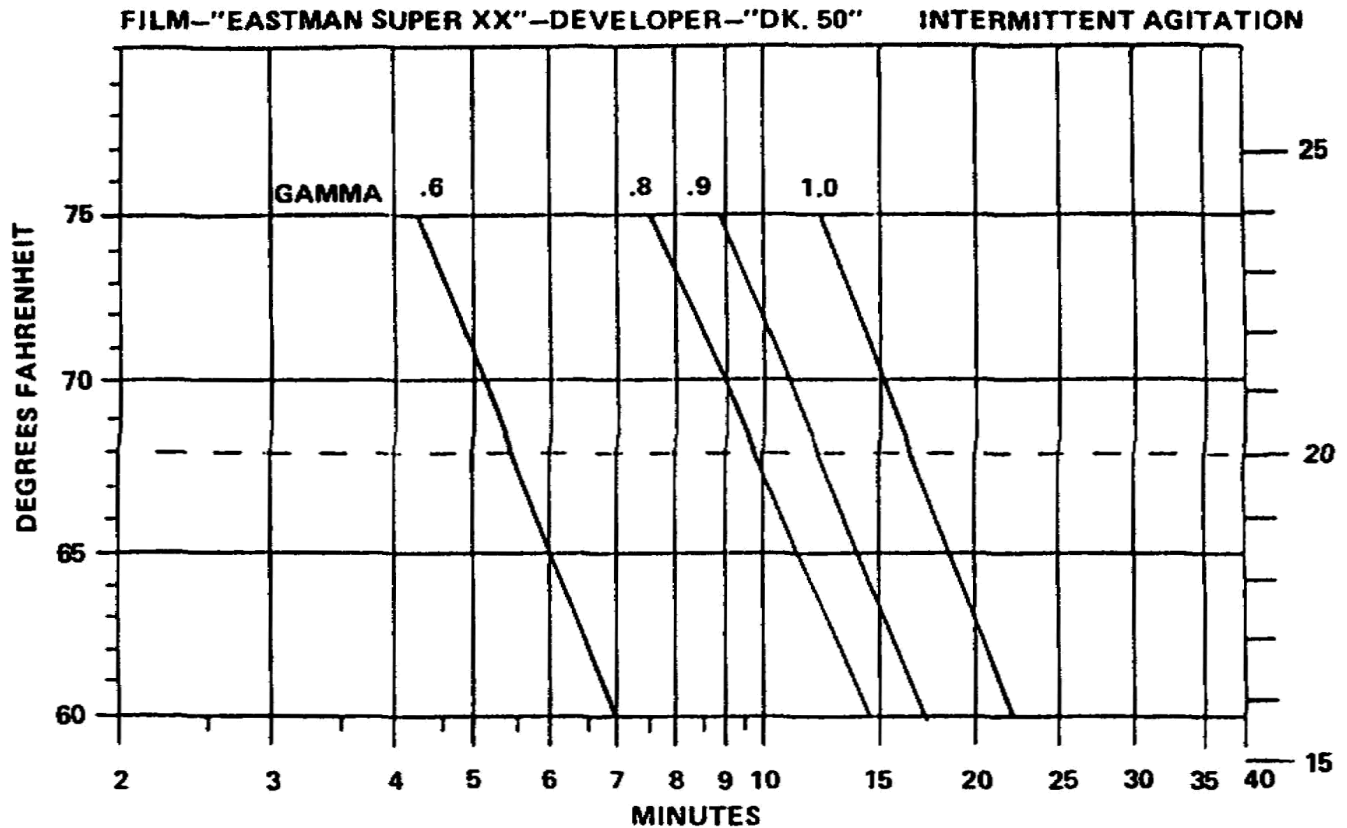

Figure 3-1. Time-temperature chart
- (1) High speed portrait film - 1.2
- (2) High speed press film - 1.7
- (3) Commercial film - 2.0
- (4) Process film - 3.0
b. Time-temperature charts. Recall that one of the primary factors governing the density of an image is the temperature of the developer. The higher the temperature, the greater the activity of the solution, therefore, shorter developing times are needed. As the temperature drops, the developing time must be increased. Since gamma must also be considered, typical time temperature charts include a gamma value which varies according to development time and temperature. Designation of this value allows you to control development in order to produce a desired gamma. By consulting a time-gamma-temperature chart, which is published by the manufacturer of the film, you can determine the proper developing time under varying conditions. A typical chart of this type is shown in Figure 3-1.